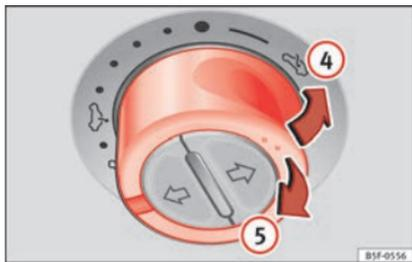

Fig. 12
- To tilt open: Push the switch to position » Fig. 12 (4). For an intermediate position, hold down the switch until you reach the desired position.
- Lowering: Pull the switch to position » Fig. 12 (5). For an intermediate position, hold down the switch until you reach the desired position.